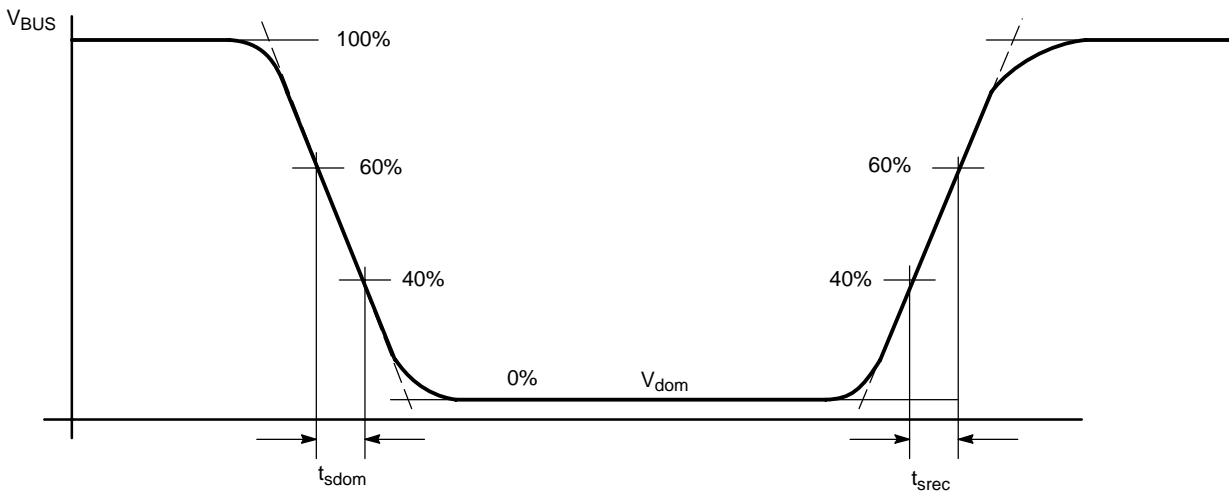

Figure 7. Slope Time Calculation
8. See Figure 7 – Slope Time Calculation.